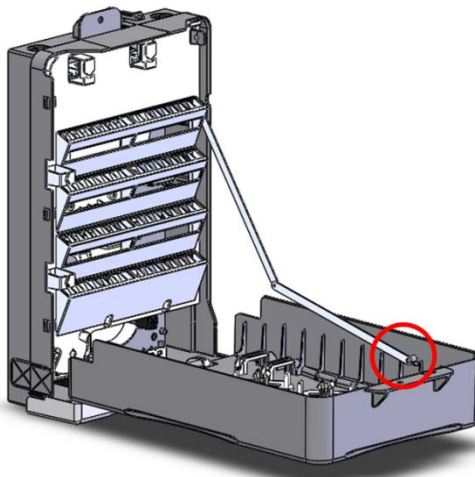

Figure 5
- 1.1.3 Unscrew the connecting rod from the base and cover (Fig. 5);